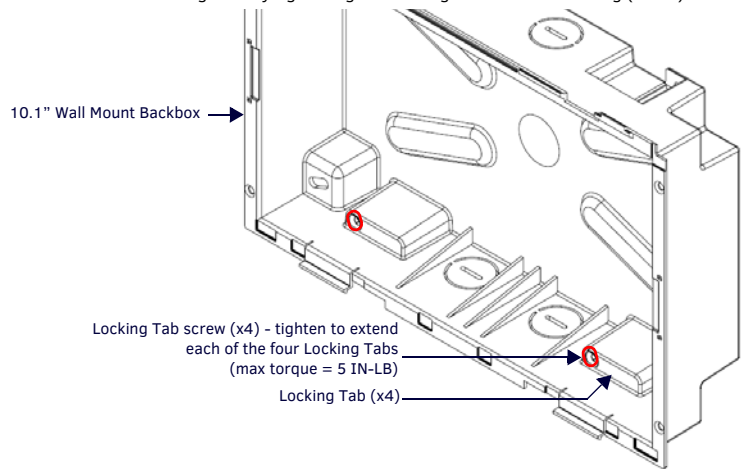

FIG. 3 10.1" BACKBOX - LOCKING TAB AND LOCKING TAB SCREW (X4)
- Extend the Locking Tabs by tightening the Locking Tab screws until snug (FIG. 3):